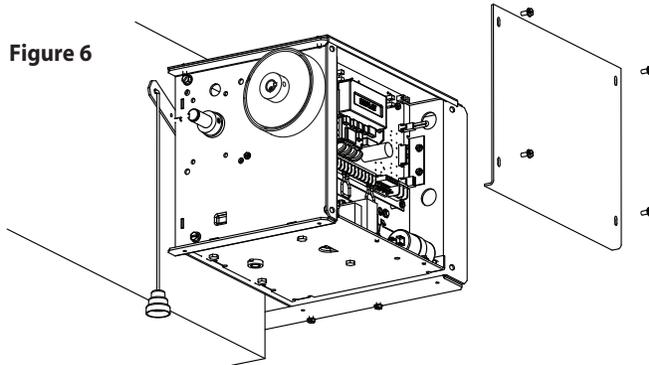

Figure 7
- 4) Insert module into the area indicated and slide front mounting tab into slot on side panel of CDX® enclosure. **FIG. 7 & 8.**